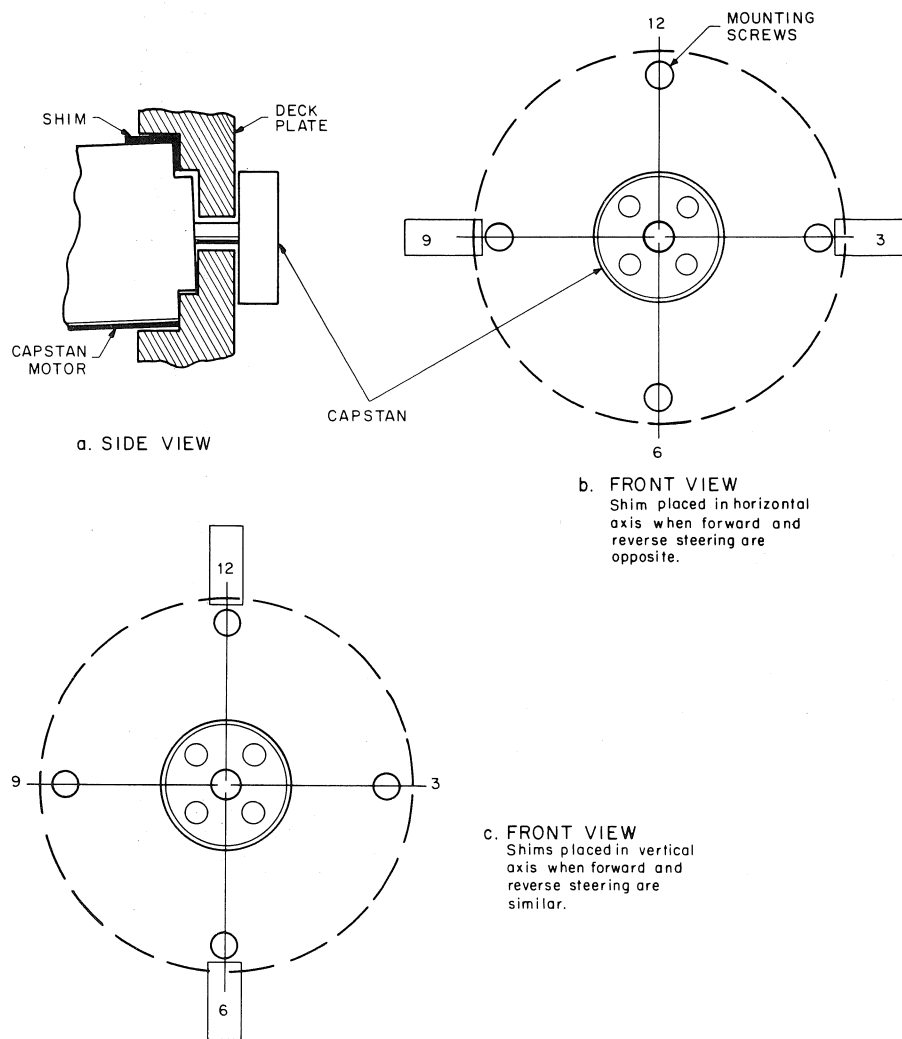

Figure 5-47 Capstan Motor Shim Placement
13. You are now ready to begin aligning the capstan motor shaft (making it perpendicular to tape path). This will be done by placing shims between the capstan motor mounting face and the casting surface onto which the capstan motor is mounted. Shims will be placed in the vertical axis to correct for capstan steering when both forward and reverse tape motion produces the same steering characteristic (i.e., tape steers toward the deck plate or toward the vacuum column glass in both directions). Shims will be placed in the horizontal axis if forward and reverse tape motion show opposite steering characteristics. (See Figure 5-47.)